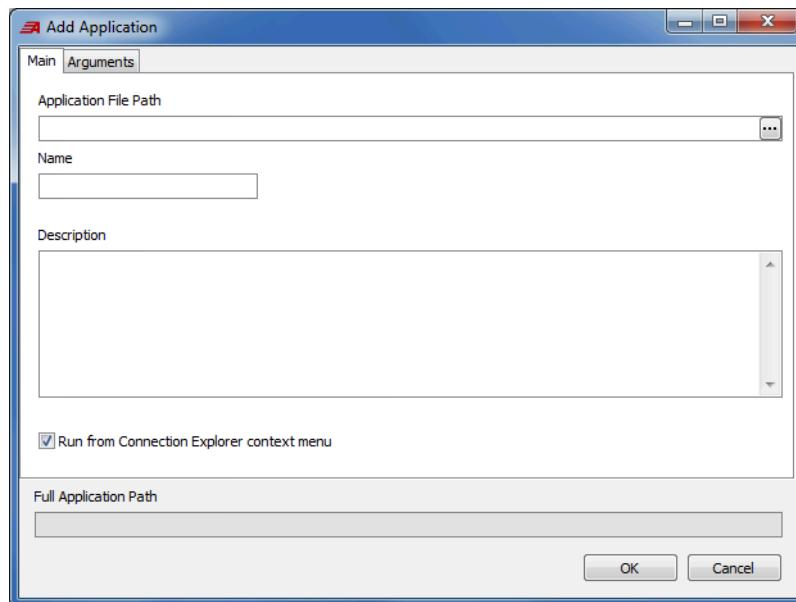

Figure 4.22 Add Application
- Step 6. Click **Add** and the **Add Application** window will display, as shown in *Figure 4.22*.